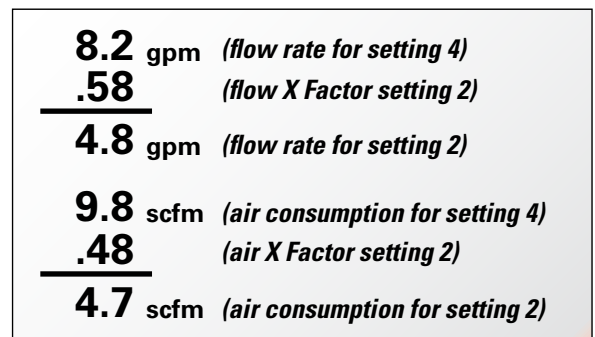

Figure 3
**Step 3: Calculating performance for specific EMS setting.** Multiply the flow rate (8.2 gpm) obtained in Step 1 by the flow X Factor multiplier (0.58) in Step 2 to determine the flow rate at EMS setting 2. Multiply the air consumption (9.8 scfm) obtained in Step 1 by the air X Factor multiplier (0.48) in Step 2 to determine the air consumption at EMS setting 2 (Figure 3).